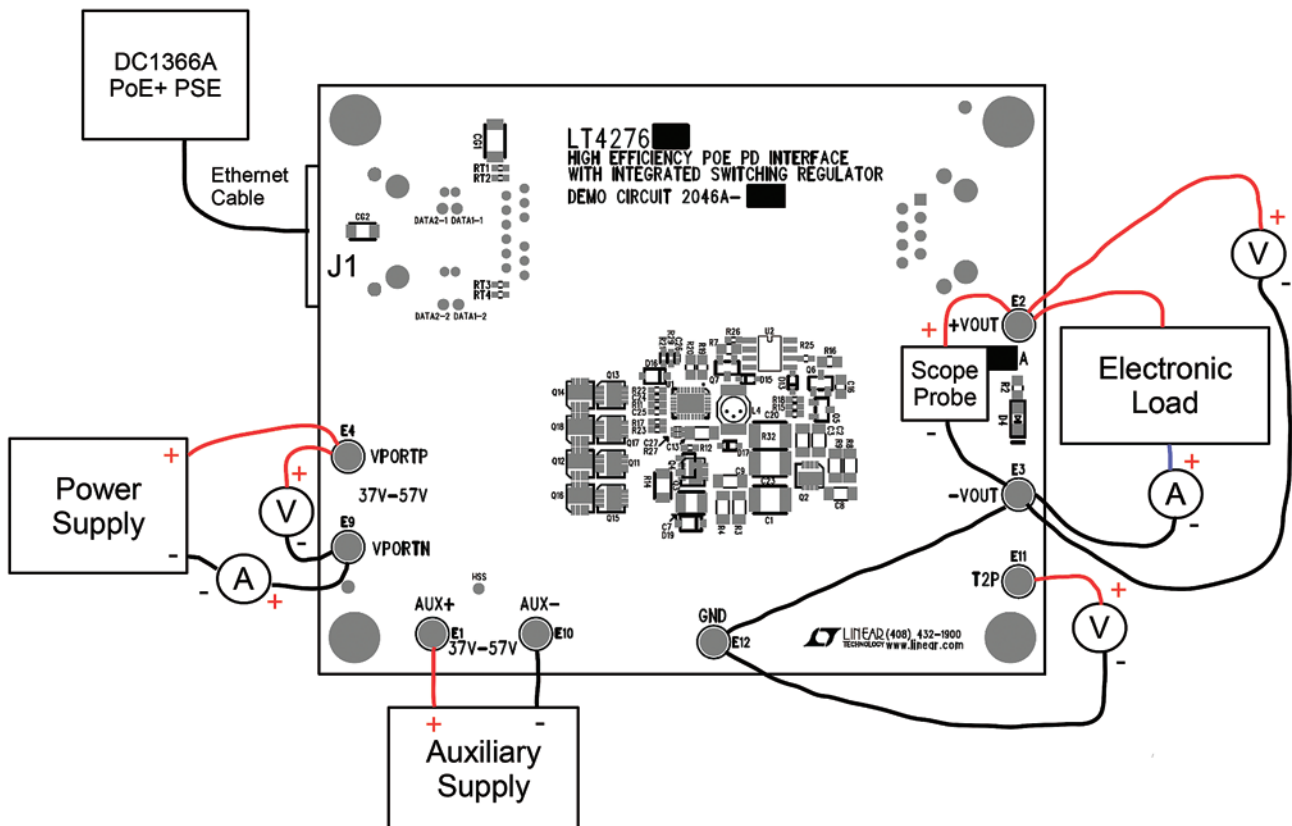

Figure 8. Proper Measurement Equipment Setup
Demonstration circuit 2046A-D is easy to set up to evaluate the performance of the LT4276 in a PoE+ application. Refer to Figure 8 for proper equipment setup and follow the procedure below:
1. Place test equipment (voltmeter, ammeter, power supplies, and electronic load) as shown in Figure 8.
- A) Connect a PoE+ capable PSE with a CAT-5 cable to the RJ45 connector, J1. See Figure 8.
- B) Or, connect a 37V to 57V capable power supply (Power Supply in Figure 8) across V_{PORTP} and V_{PORTN}.
- C) If evaluating the auxiliary power supply (Auxiliary Supply in Figure 8), connect a 37V to 57V capable power supply across AUX+ to AUX-.